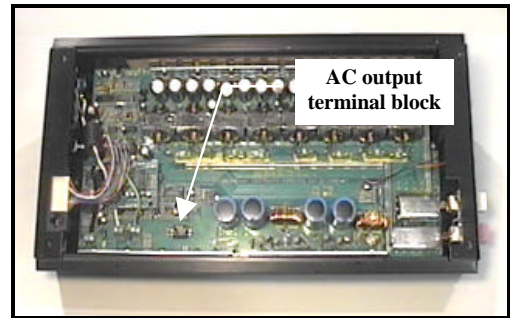

Figure 9. PROwatt 1500 AC output connections
WARNING! Permanent AC connections to the terminal blocks shown in figures 9 & 9A **are not** GFCI protected.
- b) Remove the bottom plate from the PROwatt 1500 (four screws). This will expose the AC terminal blocks (see Figure 9).